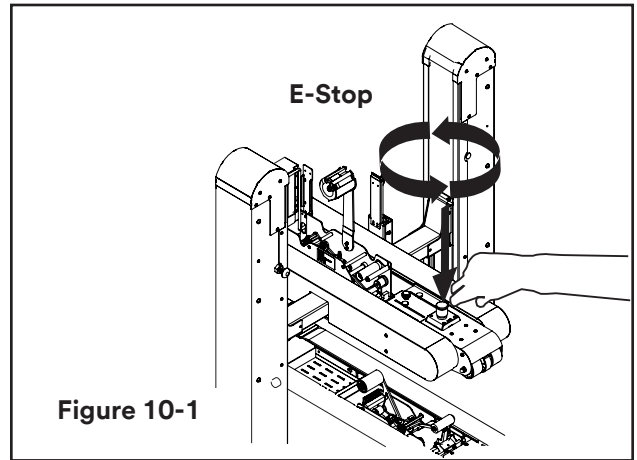

Figure 10-1
- To restart machine, rotate the emergency stop switch clockwise to release the switch latch (Figure 10-1).